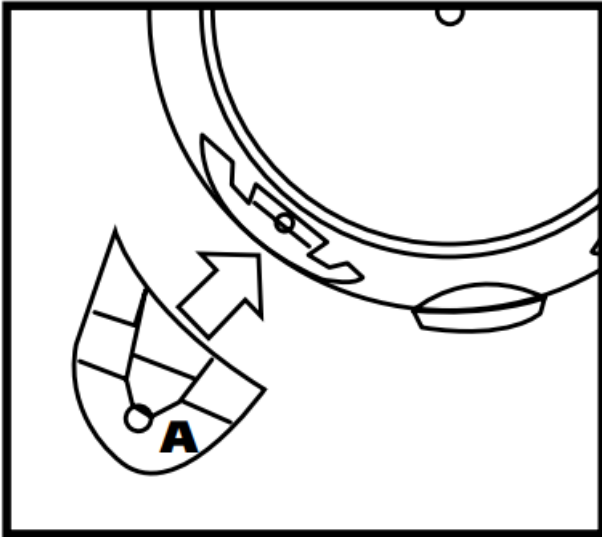

FIGURE 8
7. With tank drain facing you, take caster foot marked with the letter A and place into slot on left side of tank, also marked with the letter A. **FIGURE 8.**